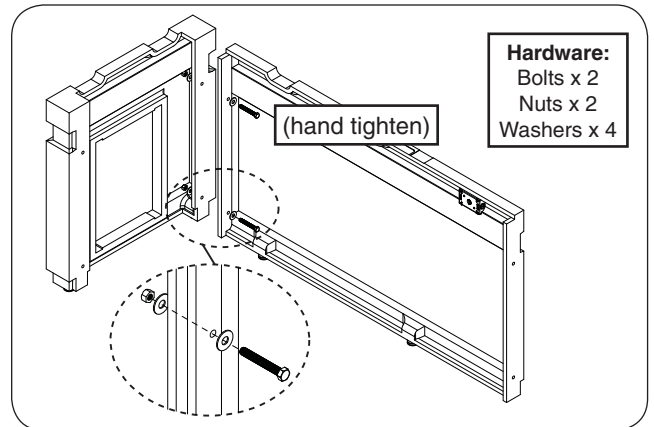

Fig. 7-2 Assemble rear and left wall
3. Orient the rear wall and left wall as shown. Carefully align the pilot holes, and insert the hardware in the order shown. Hand tighten only. See Fig. 7-2.